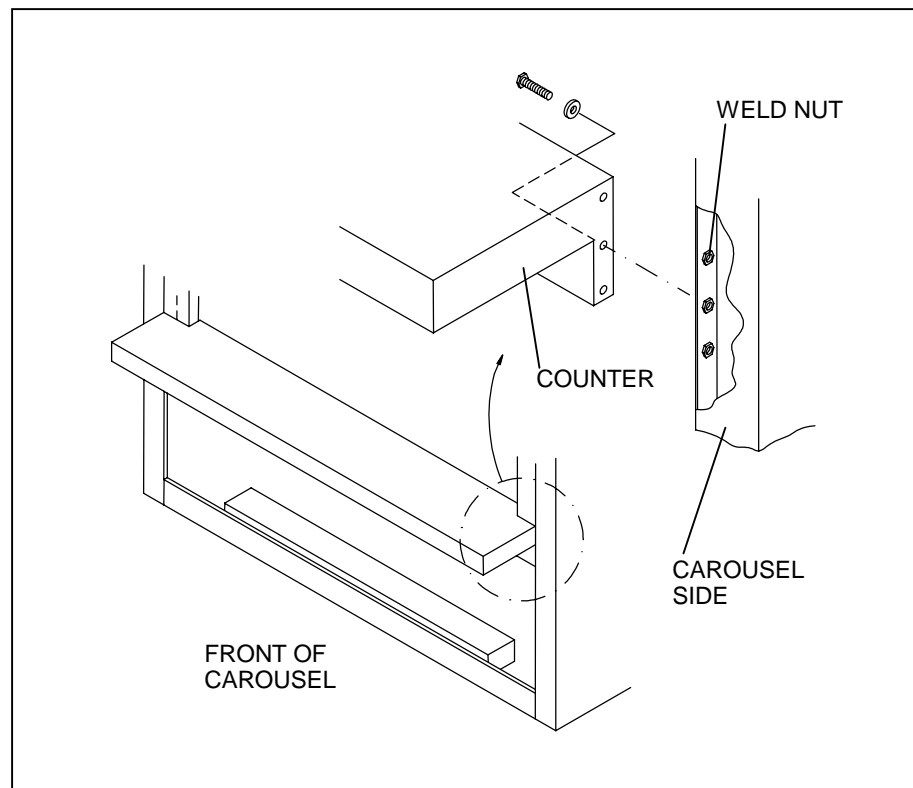

Figure 26. COUNTER INSTALLATION
2. Align the bolt holes in the counter with the weld nuts in the carousel sides (see Figure 26).